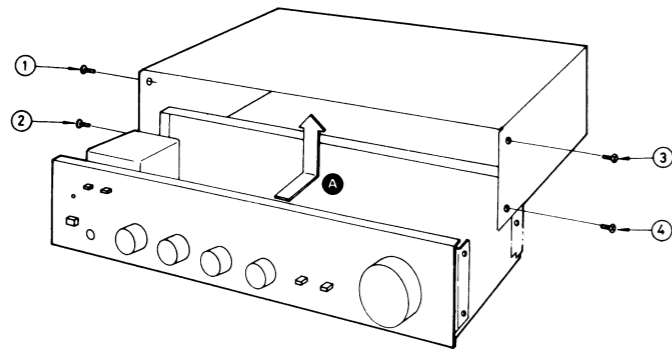

Fig. 1
1. Remove the 4 setscrews (1 ~ 4) in Fig. 1 on the side and 4 setscrews (5 ~ 8) in Fig. 2 on the back of the cabinet.
2. Shift the cabinet backward and lift it upward. (Arrow A in Fig. 1)